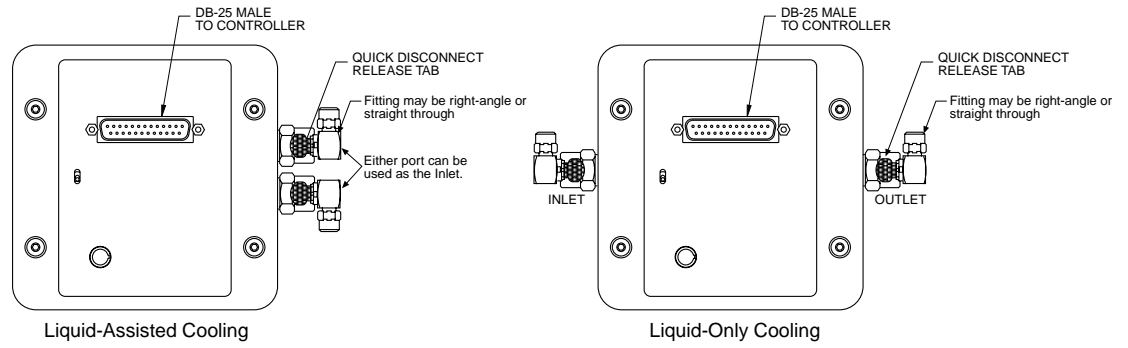

Figure 23. Coolant Ports
For best cooling, connect the inflow and outflow tubing to the ports as indicated in Figure 23.
- 6) Because of the automatic shutoffs, disconnecting the coolant supply is done by simply depressing the release tabs (Figure 23) and removing the fittings. Reconnecting the supply is done by reinserting each fitting into the appropriate valve body until you hear a click.
- 3) Because of the automatic shutoffs, disconnecting the coolant supply is done by simply depressing the release tabs (Figure 23) and removing the fittings. Reconnecting the supply is done by reinserting each fitting into the appropriate valve body until you hear a click.